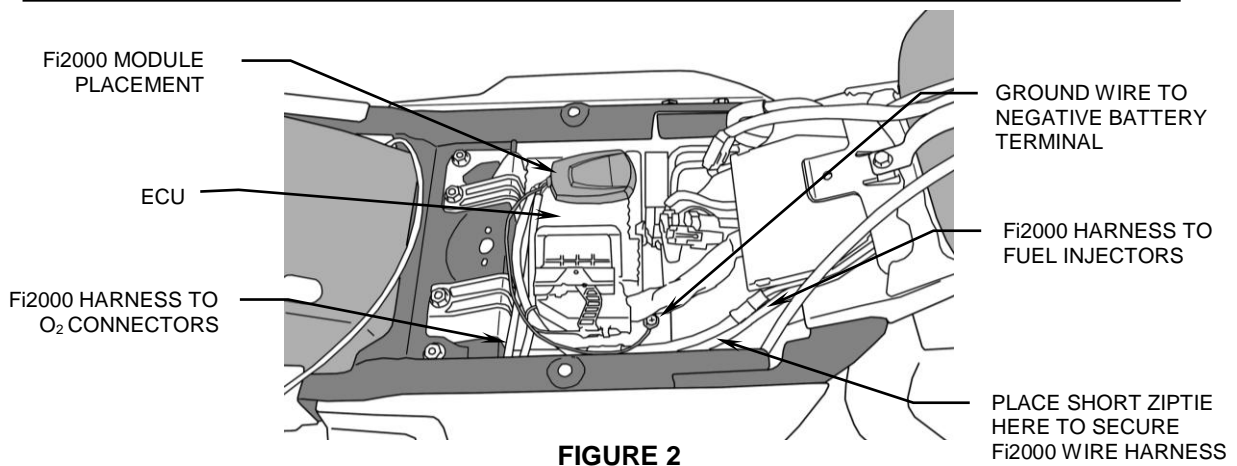

FIGURE 2
5. Place the Fi2000 case and harness on top of the engine ECU in the under-seat area, See Figure 2. Route the main fuel injector harness towards the right frame rail and place the harness between the frame rail and existing wire loom sheath. Route connectors up the main frame rail under the fuel tank to the fuel injectors between the cylinder heads.
9. Attach the ground wire from the Fi2000 to the negative battery terminal. Velcro the Fi2000 case to the top of the stock ECU. See Figure 2.